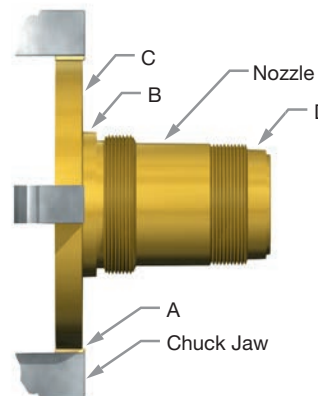

Figure 26: Nozzle Positioned in a Jaw
- Set up the V-block support (see Figure 26) as follows:
- Place the ball-pointed spindles in a piece of material B that has been recessed to permit free rotation of the spindle (15). For hollow spindles, a ball-pointed support is required.